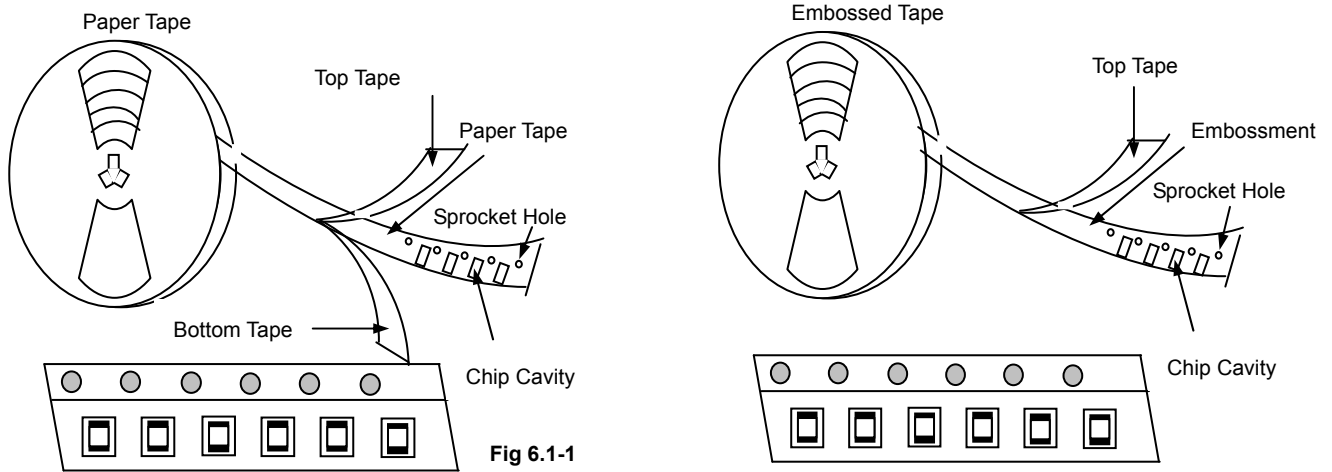

Fig 6.1-1
- a. Tape carrier packaging are specified in attached figure **Fig. 6.1-1~4**